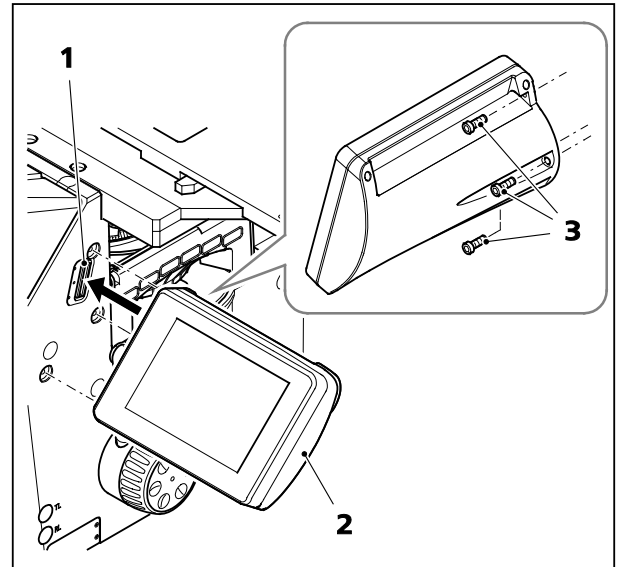

Fig. 41 Fitting the TFT display
- Place the TFT display (Fig. 41/2) on the right side of the stand. Ensure that the pin contact (Fig. 41/1) is inserted precisely into the relevant opening.
- Screw the TFT display tight using the three screws (Fig. 41/3).